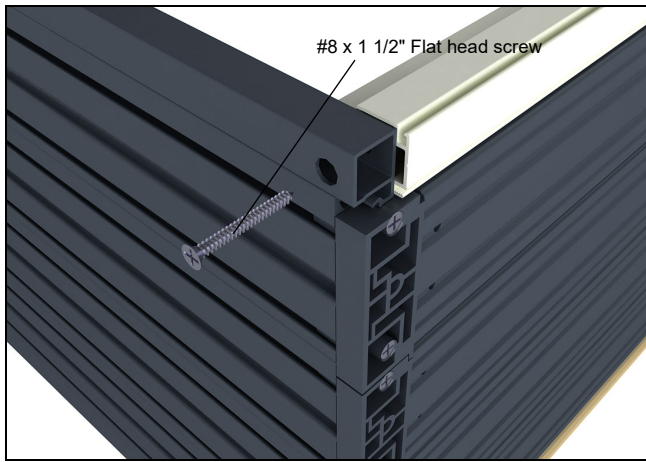

Figure 41
7. Fasten sill liner to frame cladding using #8 x 1 1/2" flat head screws. See figure 41. *Note: Ensure hole is lined up with screw boss in frame cladding.*